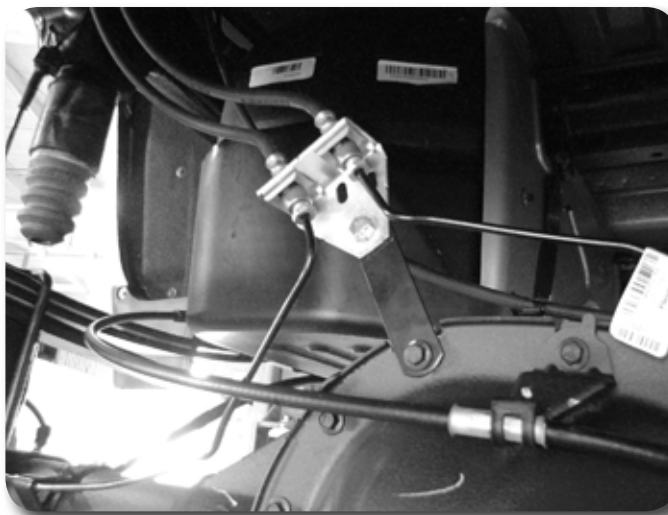

Figure 47
15. Install the provided straight 3" brake line bracket to the top of the differential using factory mounting hole and bolt which must be removed from the factory brake line bracket. Attach the factory brake line bracket to the relocation bracket with a 5/16" x 1" bolt, nut and washers. Torque the factory and 5/16" bolt to 20 ft-lbs **Figure 47**.